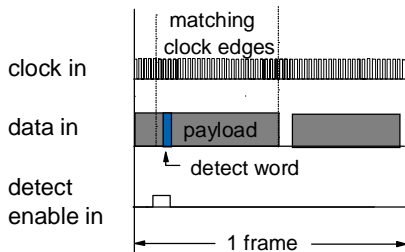

Figure 10: Input signals in cell detect mode
**Cell detect mode:** the serial cell analyzer detects the start of each cell by using a detect word (or "unique word") in each cell transmitted. See Figure 10. The selected cell segments for BER measurement are compared only when the detect word has been properly detected. In cell detect mode, the external clock may be unstable before and after the measured cell segments. In burst-mode, the clock's phase is typically recovered and therefore unstable at the beginning of each burst (preamble). The detect enable signal is required to determine the time window where the start of the detect word is expected. This assures proper synchronization, even when PRBS segments are used, where the same pattern as the detect word occurs.